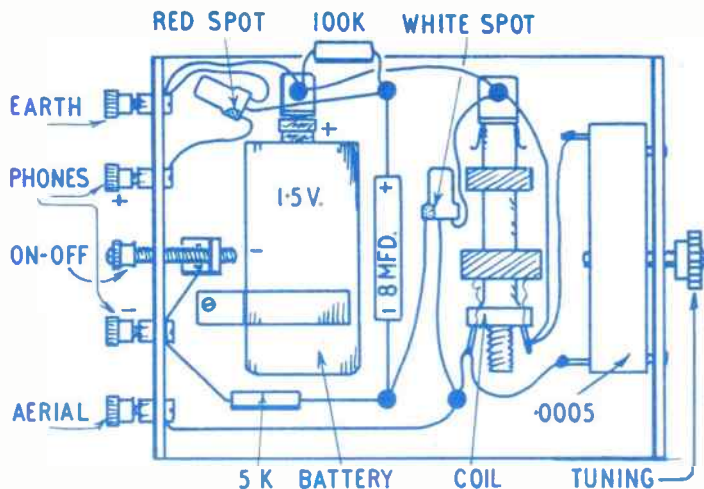

Fig. 2—Wiring plan
The small baseboard is of 3-ply, 2½ins. by 2½ins. This must be dry, and should be varnished both sides to keep out damp. A strip of Paxolin 2½ins. by ½in. is fitted each end by small wood screws. One strip carries the compression condenser, and the other four 6 B.A. terminals, as in Fig. 2.
up very little space, and cannot be turned on by accident. The threaded bracket can be replaced by an ordinary small angle bracket to which a sprenut is soldered. The bracket is bolted in place, and connected to one phone terminal, as shown in Fig. 2.
These have been mentioned, and are shown in Fig. 2. Thin insulated sleeving should be placed on the transistor leads, to avoid possible short circuits. Pieces of the rubber covering stripped from thin flex will be suitable. The leads are left full length, and should not be bent near the transistor body.
The coil listed has a small clip which can be bolted to a bracket, for mounting. In the present circuit, the smaller aerial coupling winding is ignored, leads going to the larger winding tags, as in Fig. 2. If a long aerial is ever used, it can be taken to one coupling winding tag, the other tag being wired to earth. This will give more selective tuning, but is not required with short aeriels.
Construct the coiling jig next (Fig. 2). A fairly tough steel rod of $\frac{1}{4}$ in. dia. will be necessary. Smooth this down with emery paper until it shines. Bend it one end as shown making a crank and a handle. The grooves in the uprights are $\frac{1}{2}$ in. deep. Above these drill a hole for rivets, which will hold the rod secure,
Grip the flat batten of jig (Fig. 2) in the vice. Place the coiling rod in the grooves provided and push in the securing rivets. Place the wire in the tunnel of jig (1) and close the cover. With about 2 ins.